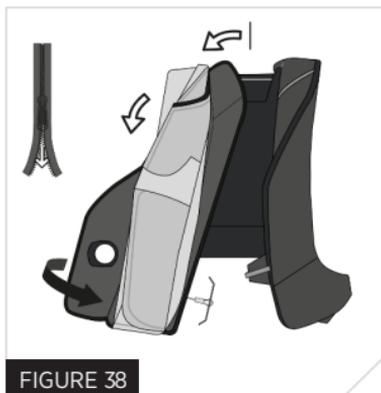

FIGURE 38
18. Finish closing the cover by running the zipper sliders back to the ends of the zipper run (Fig. 38).